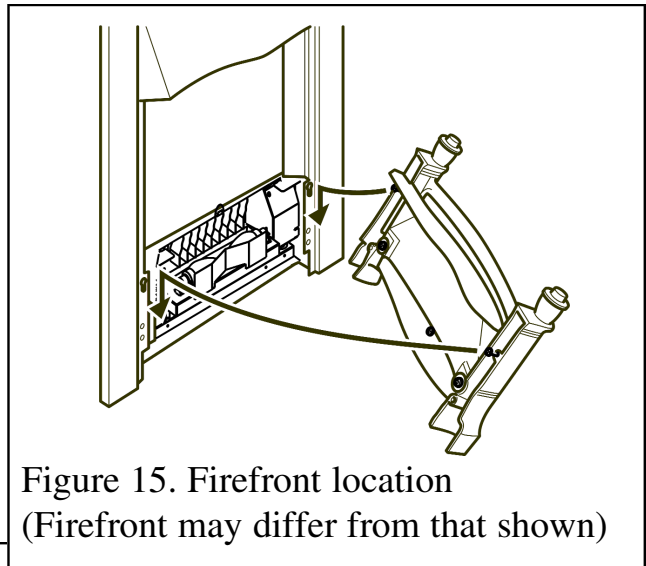

Figure 15. Firefront location
3. The rear of the firefront has two screws that locate into 'keyhole' brackets on the heater (See figure 15). (*On Victorian models screw the brass finials supplied with the firefront into the top of the firefront*).
3. Hook the firefront on to the fascia as in figure 15.